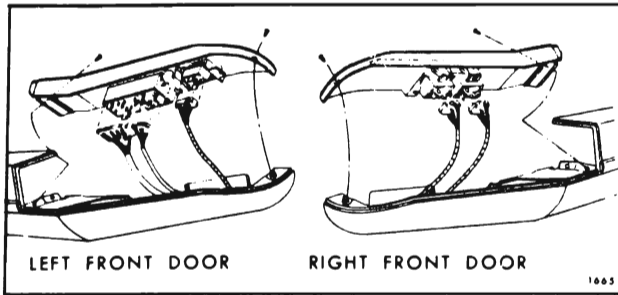

Fig. 14-10—Front Door Arm Rest Switch Cover Assembly - Olds. Style Shown, Others Typical
4. On styles with switch plate located in arm rest as shown in Figure 14-10, remove exposed screws and disconnect switches from wire harness connectors.